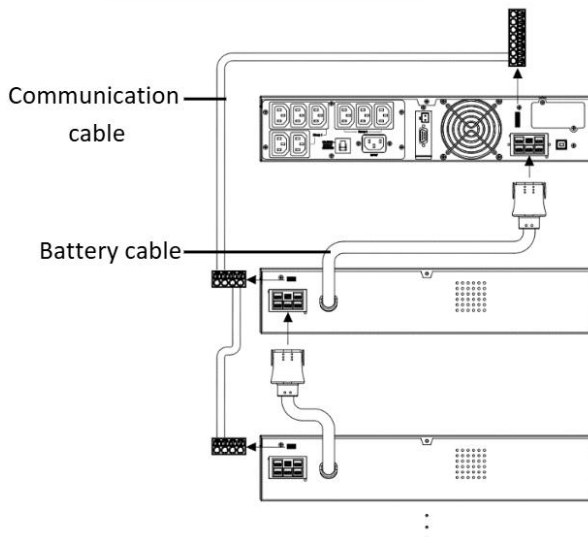

Fig.3.3 Please follow the above diagram while connecting external battery packs.
- Locate the battery connector, then use **only** factor-supplied or authorized battery cable provided to connect the UPS with the battery as fig.3.3 below.